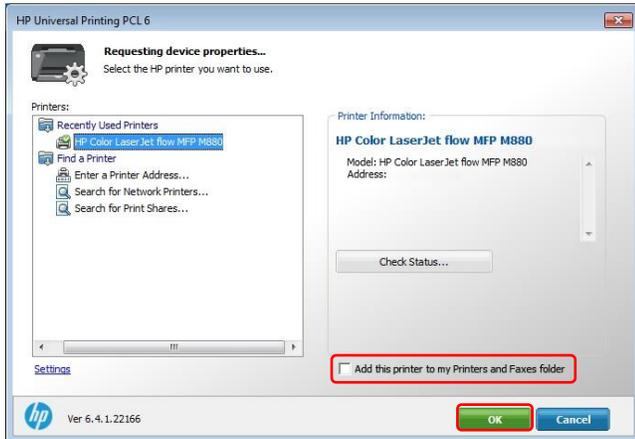

Figure 7-10 HP UPD Dynamic mode dialog box
- Select **Add this printer to my Printers and Faxes folder** as shown in figure 7.10.